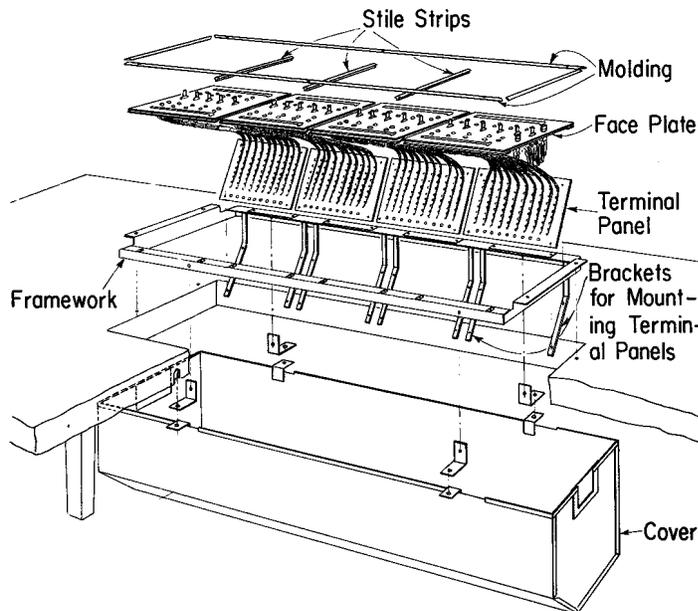

Fig. 14 — Assembly of 101B Key Equipment
9.01 Fig. 14 illustrates a typical assembly of 101B key equipment.
3. Mount the four cover supporting angles shown in Fig. 14 to the framework with RH machine screws.